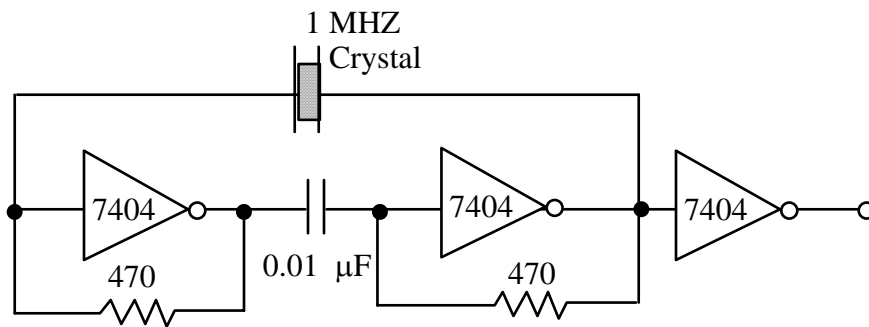

Fig. 15 IC-Based Oscillator Circuit Using 1 MHz Quartz Crystal.
c.) For a more stable oscillator, such as for use in a microprocessor as a clock, a quartz crystal can be used. Here again, use the (non-Schottky) SN7404 Hex Inverter IC. Build, and then measure the oscillation frequency of the circuit shown below in Fig. 15. Note that the third inverter is simply used as a buffer, in order to isolate the output from the actual clock circuit.